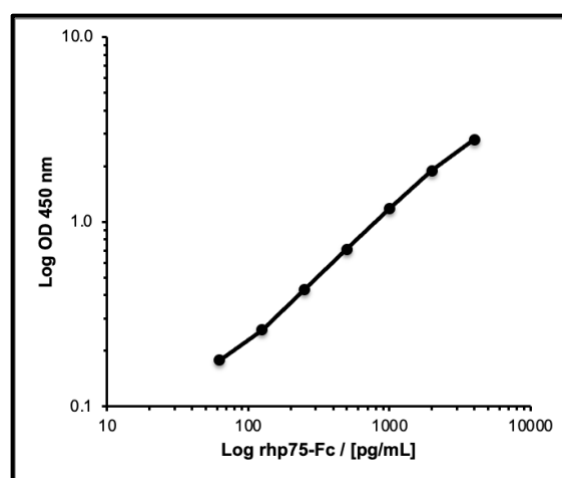

Figure 2: Human p75^{ECD} standard curve
2. **Determine concentration of target protein in unknown sample.** The p75^{ECD} protein concentration of the samples can be interpolated from the standard curve. Draw a horizontal line to intersect with the standard curve. A vertical line dropped from this point intersects the X-axis at the concentration of p75^{ECD} in the unknown sample. In the exemplary standard curve in Figure 2, a sample with OD₄₅₀ = 0.50 reads as 319
In the example graph in Figure 2, recombinant human p75^{ECD} standards were run in triplicates using the assay diluent provided in this kit. The TMB reaction was stopped after 15 minutes.